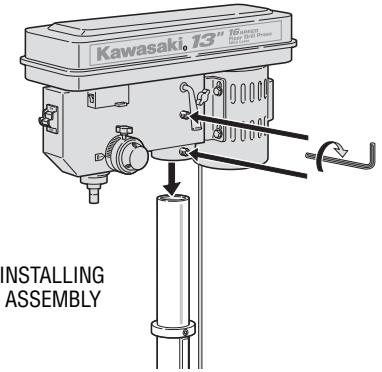

FIGURE 6. INSTALLING THE HEAD ASSEMBLY
4. Align the head assembly with the worktable and base. See Figure 6.
5. Locate the (2) two 10 mm X 12mm set screws in the loose parts bag.